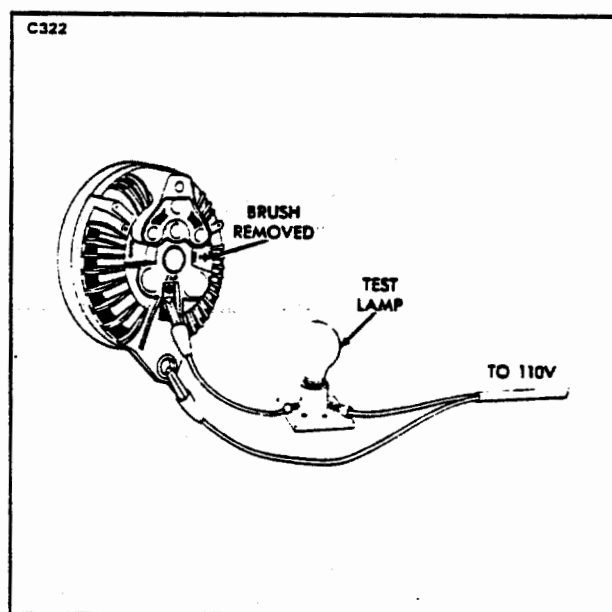

Figure 11-43. Testing Field Circuit
a. Remove the ground brush and using a 110-volt test lamp, place one test probe to the field terminal and the remaining test probe to a machined surface at one of the alternator end shields. (Refer to Figure 11-43.) The test lamp should not light.